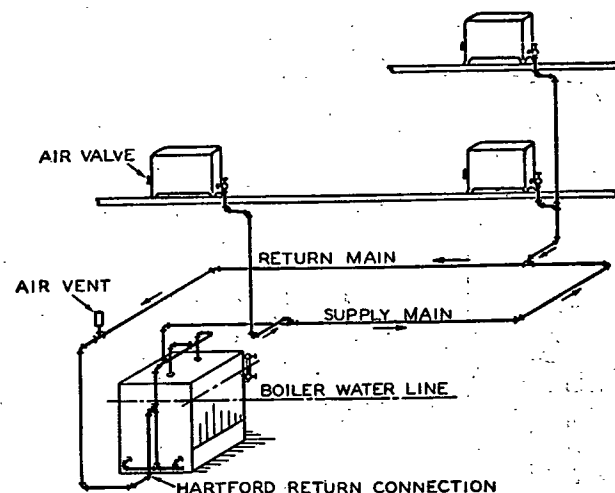

FIG. 3. TYPICAL UP-FEED GRAVITY ONE-PIPE AIR-VENT SYSTEM
1. Up-feed one-pipe systems where the radiators and other heating units are located above the supply mains. The mains in this instance convey both steam and condensate. Such a system is illustrated in Fig. 3. Typical connections to radiator or risers are illustrated in Fig. 4, and method of changing sizes of mains in Fig. 5.